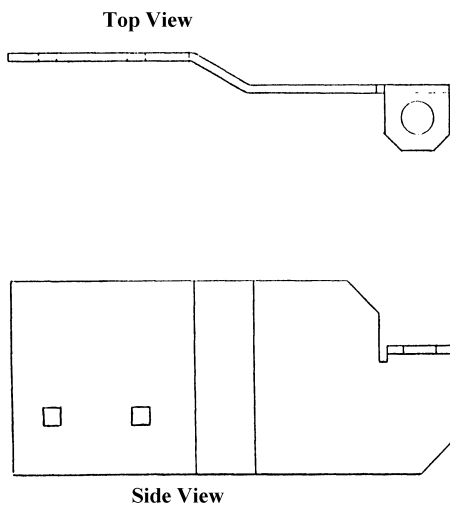

Figure 6
2. Note that the door lock plate is shaped like the vandal panel on the main door. (See figure 6 below.)
7. With the door closed, slide the long leg of the door lock strike behind the door lock plate. At the same time, align the  $\frac{1}{2}$ " diameter hole in the door lock plate with the  $\frac{1}{2}$ " diameter hole in the door lock strike. (See figures 6, 7, & 8 below.)